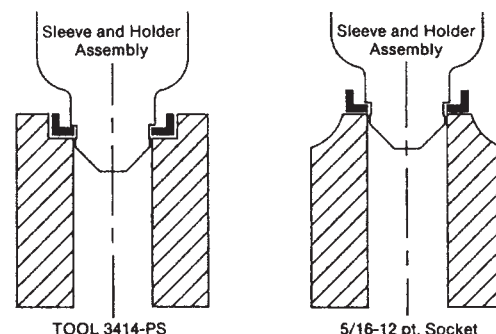

FIG. 2
- Press sleeve holder (with sleeve installed) pointed end first, into the locking ring (Fig. 2).